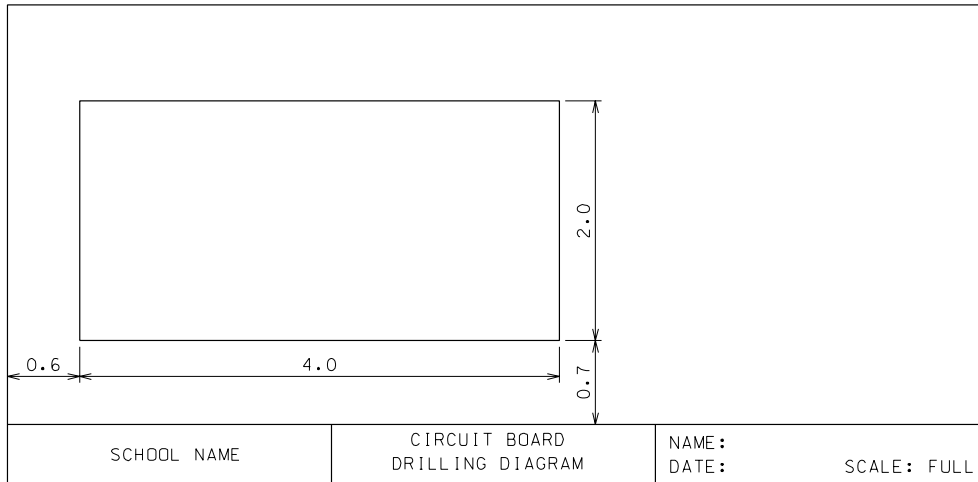

Figure P7-6 Circuit board dimensions
- STEP 1:** Set the Active Level to Object, the Line Weight to 1, and the Color to blue (1).
- STEP 2:** Using Figure P7-6 as a guide, use the Place Block tool to draw the circuit board.